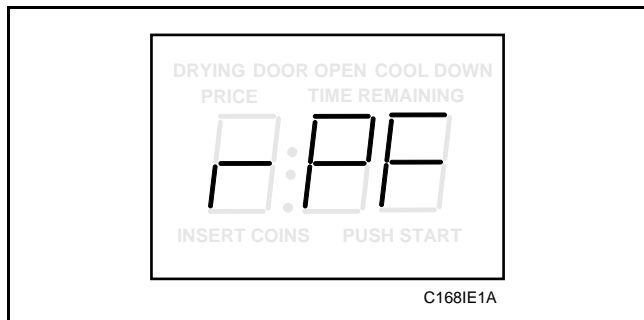

Figure 74
3. Press the LOW TEMP (+) pad or the NO HEAT (-) pad to scroll through the programmable options until “rPF” appears in the VFD, *Figure 74*.